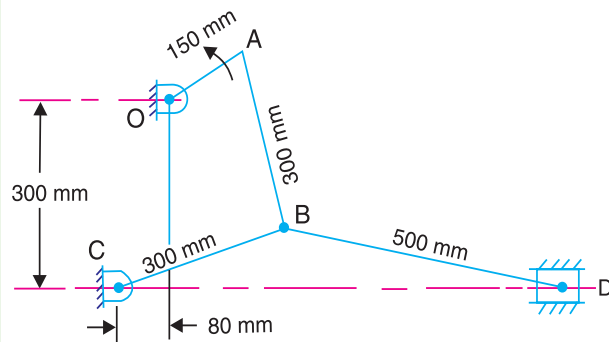

Fig. 7.41
11. Fig. 7.41 shows a toggle mechanism in which link D is constrained to move in horizontal direction. For the given configuration, find out : 1. velocities of points band D ; and 2. angular velocities of links AB , BC , and BD .